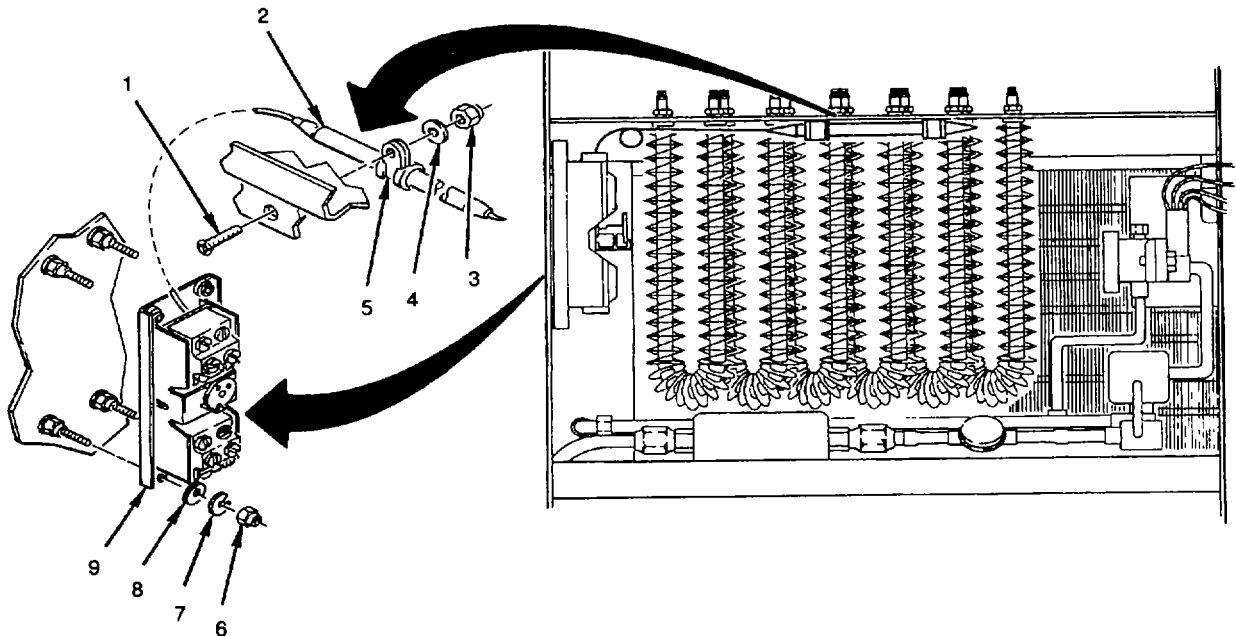

Figure 4-44. Thermostat (S2)
- b. Check that capillary line and sensing bulb are not damaged (see fig 4-44).